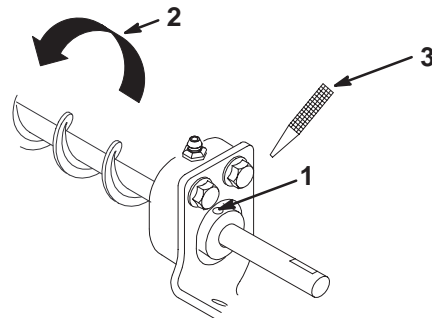

Figure 12
25. Rotate the bearing locking collar in the direction of the rotation of the brush, by hand until the collar is tight on the roller brush shaft (Fig. 12).
26. Tighten the collar further by placing a punch in the blind hole of the collar and striking it sharply in the direction of the rotation of the brush (Fig. 12). Retighten the collar set screw to secure the adjustment (1/8" Allen wrench).